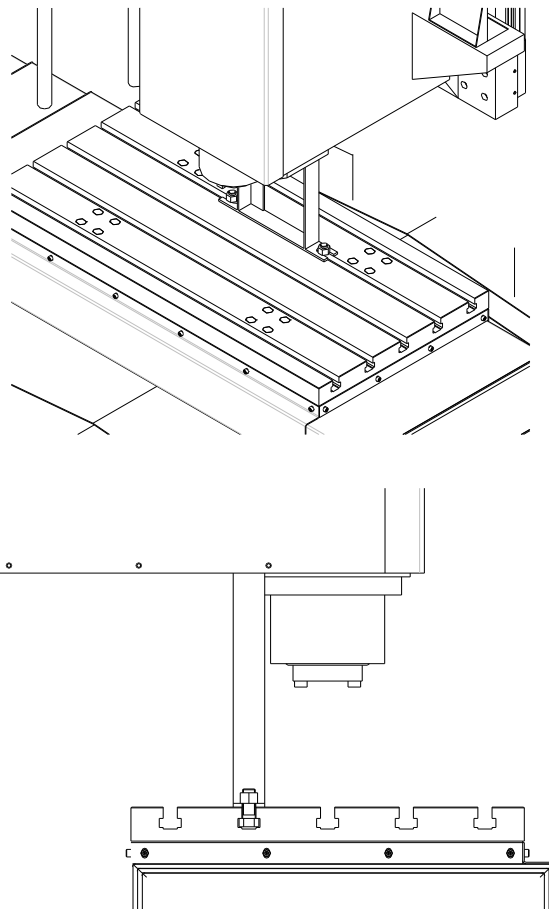

Fig. 2.1 (a) Fixture of Z axis
- 4) As shown in Figure 2.1 (a), position the fixed bracket above the working table with T-slot and screws, then fall down the spindle nose slowly. Take care to see the distance of the spindle touched and the fixed bracket. Make sure the fixed bracket can support the spindle. (there must be rubber washers among the connecting surfaces of fixed bracket, working table and headstock to avoid the damages of working table surface and headstock).
- 5) Position the fixing block on the machine; adjust the fixing bolt and tighten it; fix the sliding base. As shown in Fig.2.1 (b) .